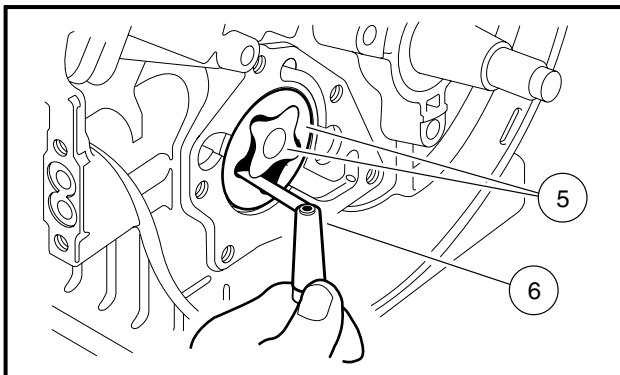

Figure 2-60 Check Clearance Between Rotors
1. Check the clearance between the inner and outer rotors (5) with a feeler gauge (6). Measure the clearance between the high point of the inner rotor and the high point of the outer rotor (Figure 2-60, Page 2-29).
3. Remove inner and outer rotors (5).